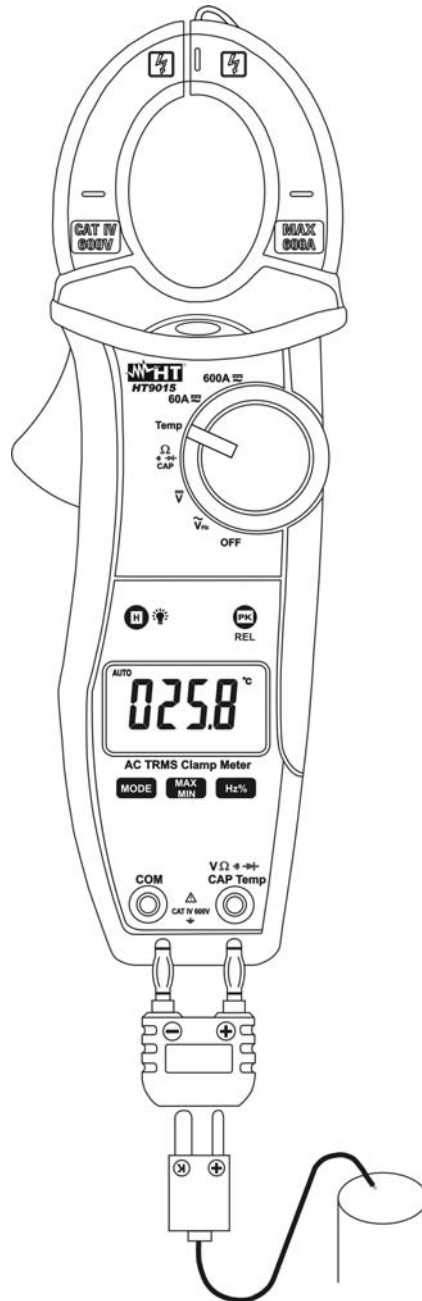

Fig. 8: Taking Temperature measurement
3. Insert the type K bead probe in **VΩHz%Temp** and **COM** inputs terminals using the standard adapter and observing the correct polarity (see Fig. 8). The temperature value is shown at display